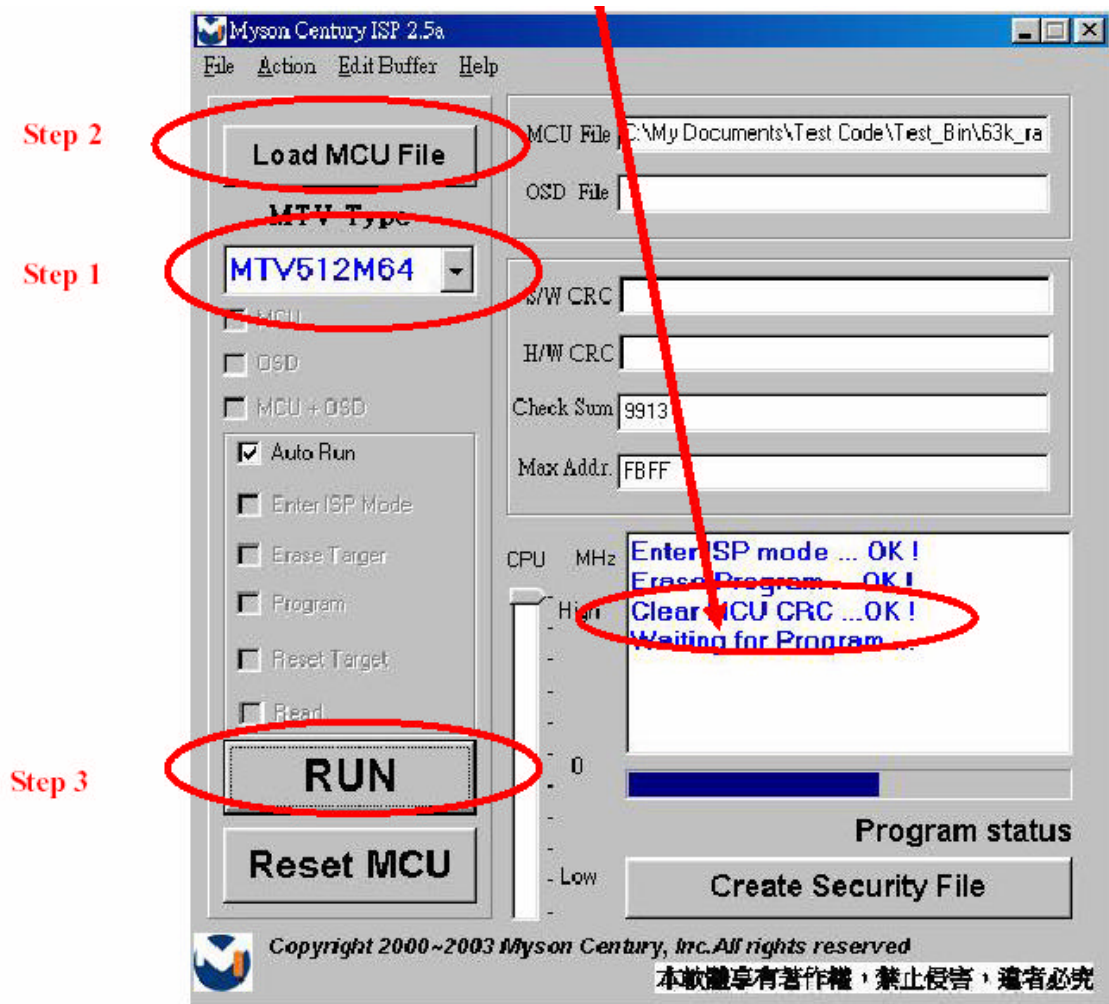

Fig 4.1
- 4.1 Select MTV type first, load the binary or Intel hex file that you want to program into the MCU, and select “ Auto ” item, then press “ RUN ” button, see Fig 4.1.